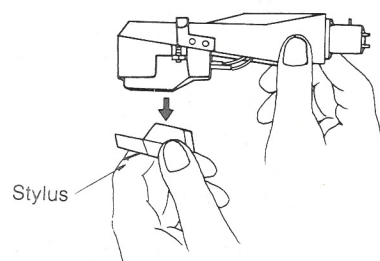

FIG. 27
2. Gently remove worn stylus and replace it with a new one, as shown in Fig. 27.